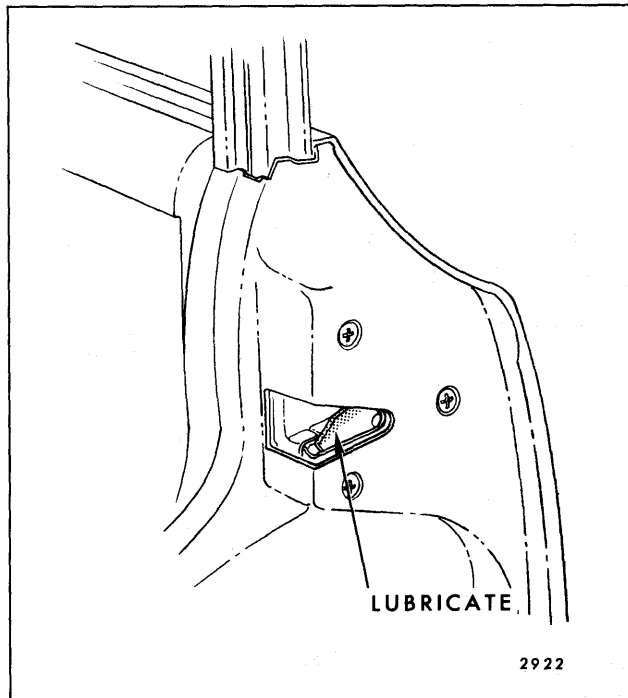

Fig. 2-6—Door Lock Fork Bolt
2. Apply a thin coat of grease stick lubricant (Doorease or equivalent) to the areas indicated (Fig. 2-6).